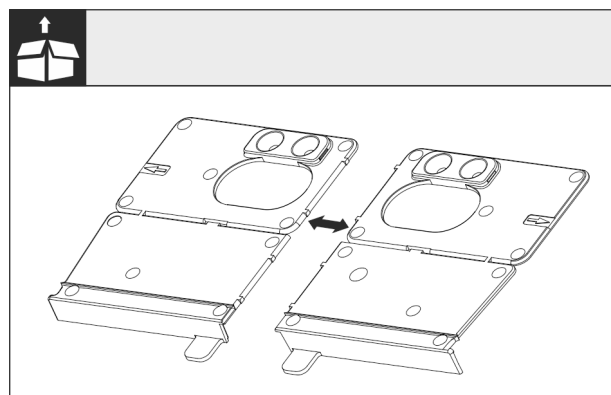

Fig. 25
- ▶ Separate the floor mounting bracket Fig. 25 () at the perforation.